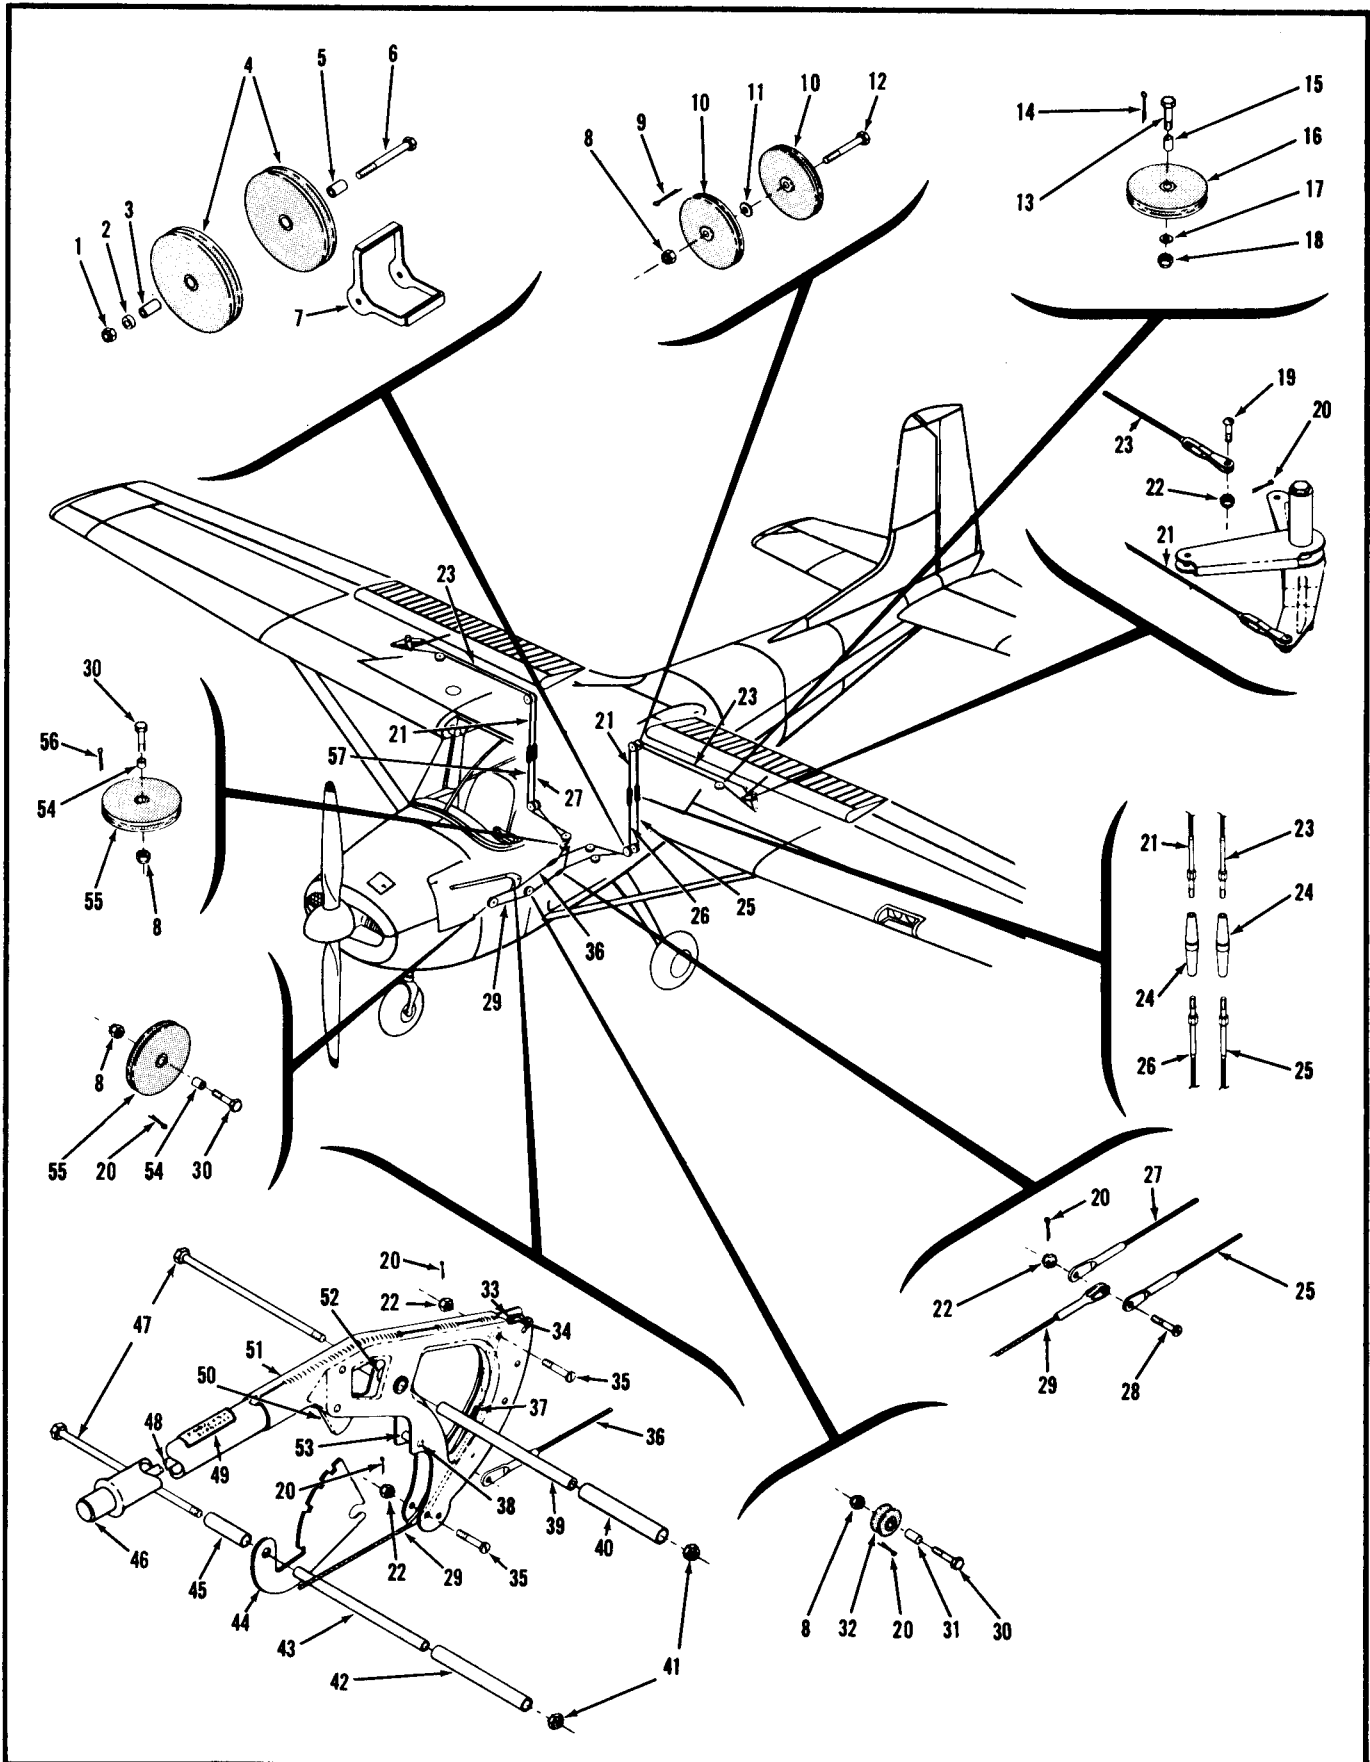

Figure 7-2. Flap Control System (Except 150)
References for Figure 7-2.
(See figure 7-2.)
- a. Position the bellcrank and install bolt (5) through the top of the wing and the bellcrank pivot bushing. Secure bolt with washer and nut.
**7-13. REMOVAL AND REPLACEMENT OF CABLES AND PULLEYS** in the flap system may be accomplished using figure 7-2 as a guide.